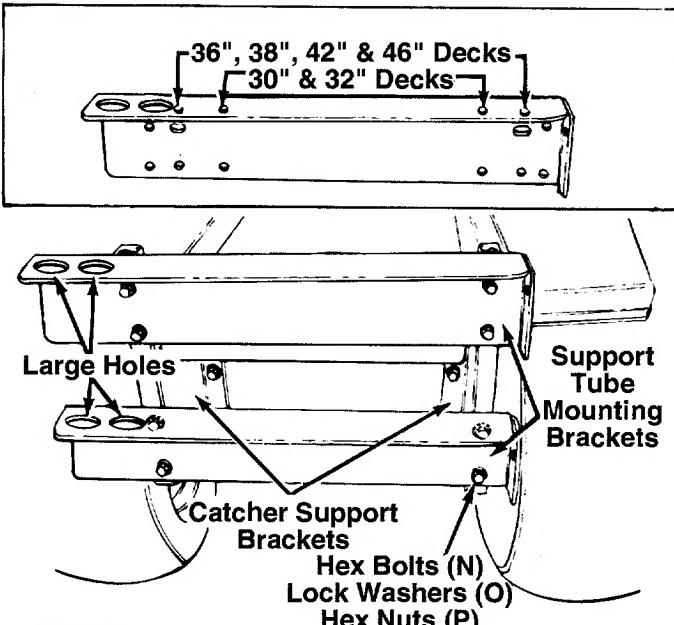
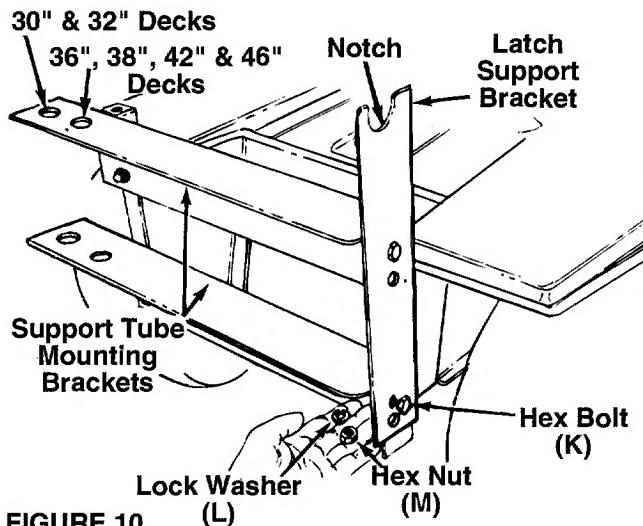
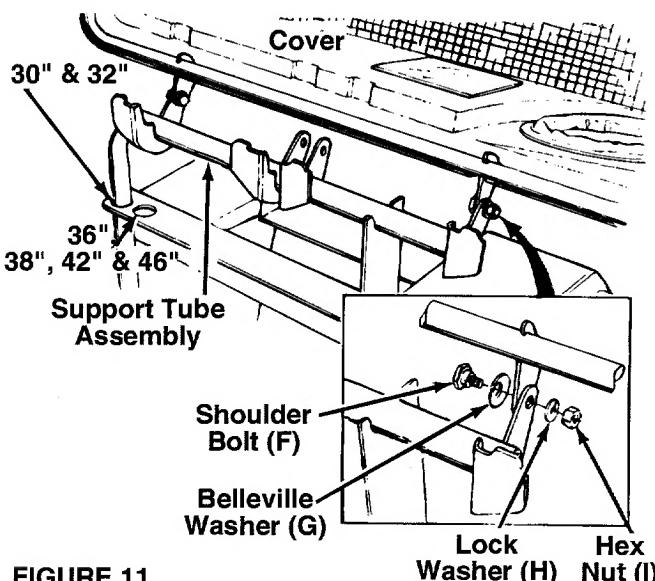

FIGURE 9.
FIGURE 10.
FIGURE 11.
- a. Examine the illustration in figure 9 to determine which holes in the support tube mounting brackets to use for your unit.
- b. Place the support tube mounting brackets in position against the support brackets. See figure 9. The large holes in the support tube mounting brackets go to the left side of the unit. The flange in the brackets go toward the top.
- c. Secure with hex bolts (N), lock washers (O) and hex nuts (P), finger tight only. After all eight hex bolts and nuts are assembled, then tighten securely.
3. Assemble the latch support bracket to the right side of the support tube mounting brackets using the **upper** set of holes in the latch support bracket as shown in figure 10. Assemble so the notch in the top of the latch support bracket is toward the rear of the unit. Secure with two hex bolts (K), lock washers (L) and hex nuts (M).
1. Place the support tube assembly in position on the rear of unit by sliding the support tube down through the holes in the left side of tube mounting brackets. Use the inside hole for 36", 38", 42" and 46" decks. Use the outside hole for 30" and 32" decks. See figures 10 and 11.
2. Place belleville washers (G) on shoulder bolts (F) so that the crowned side of the washers is against the head of the shoulder bolt.
3. Place the cover in position against the brackets on the support tube assembly as shown in figure 11. (Allow the cover to rest on the seat of the lawn tractor for ease of assembly.) Line up the holes in the hinges of the cover with the holes in the support tube.
4. Insert the shoulder bolts (with washers attached) through the hinges on the cover and the support tube assembly. Heads of the shoulder bolts go toward the inside of the unit. Secure with lock washers (H) and hex nuts (I). Do not overtighten. Cover must be able to pivot on the support tube.